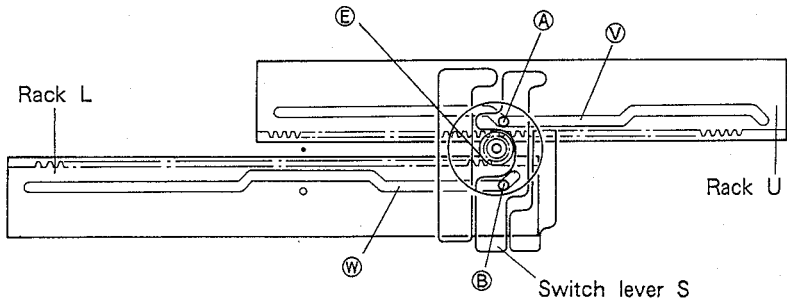

Fig. 10-11.
Fig. 10-11 shows the positions of rack U and rack L and the position of switch lever S when tray 2 is in the play position and tray 1 is in the close position. There are protruding sections at ④ and ⑤ of switch lever S, and these are inserted in grooves ⑥ and ⑦ on the front side of racks U and L.